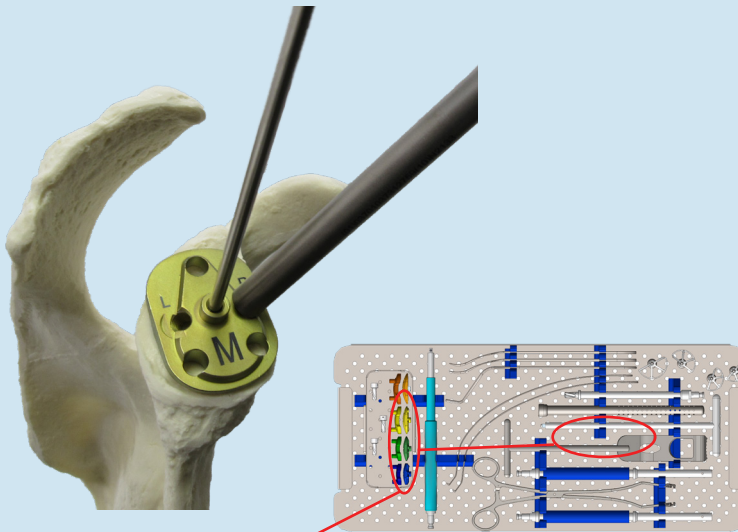

Figure 17
STEP 15: PLACING THE K-WIRE (Figure 17)
(Figure 17)